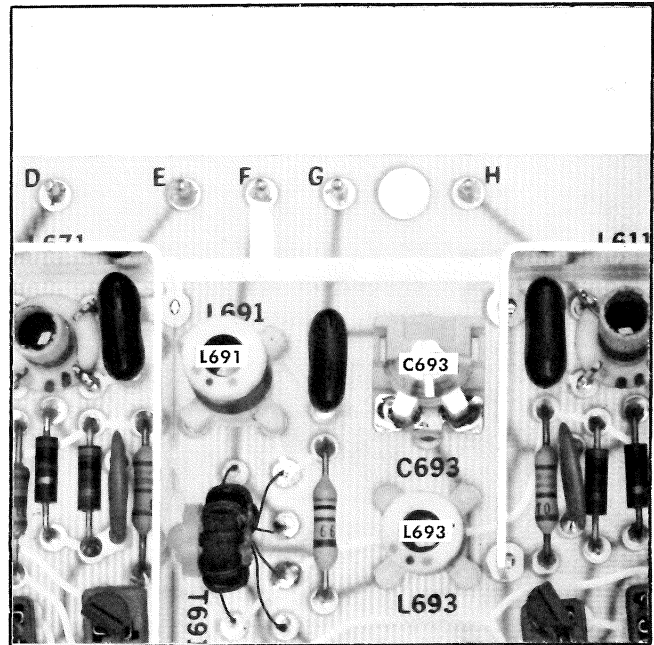

Fig. 5-45. U and V Modulator board adjustment location.
- h. ADJUST—4.43 MHz Bandpass Filter adjustments, C693, L691, and L693, (see Fig. 5-45) for best overlay of the displays as shown in Fig. 5-44B.
o. ADJUST—4.43 MHz Bandpass Filter, C693, L691 and L693, (see Fig. 5-45) for best transition from green to magenta as shown in Fig. 5-46A.